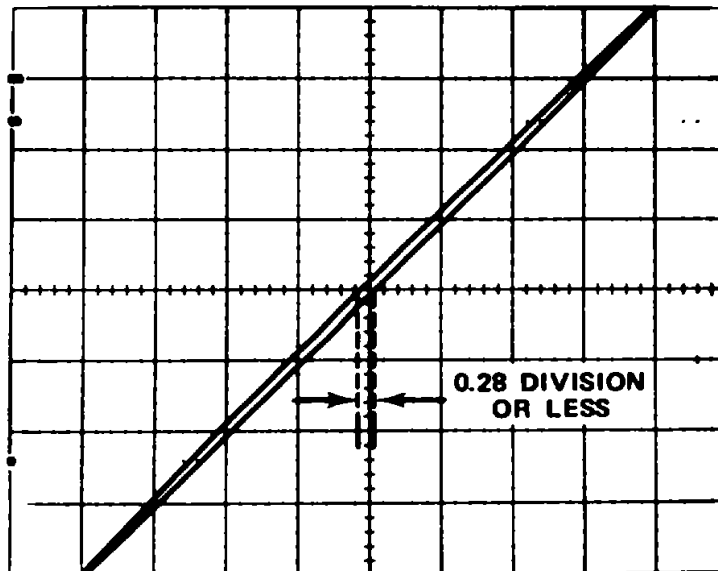

Figure 5-5. Typical crt display when checking X-Y phase. shift.
e. CHECK-The lissajous display for an opening at the center vertical line of 0.28 division or less (indicates two degrees or less of phase shift; see Figure 5-5).